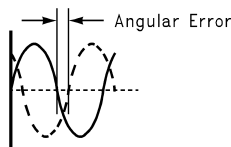

Figure 35. Angular Errors Between the Two Input Signals Will Reduce the Output Level or Cause Distortion
- dev is the angular difference in degrees between the two signals having a 180° relative phase relationship to each other (see Figure 35). (7)